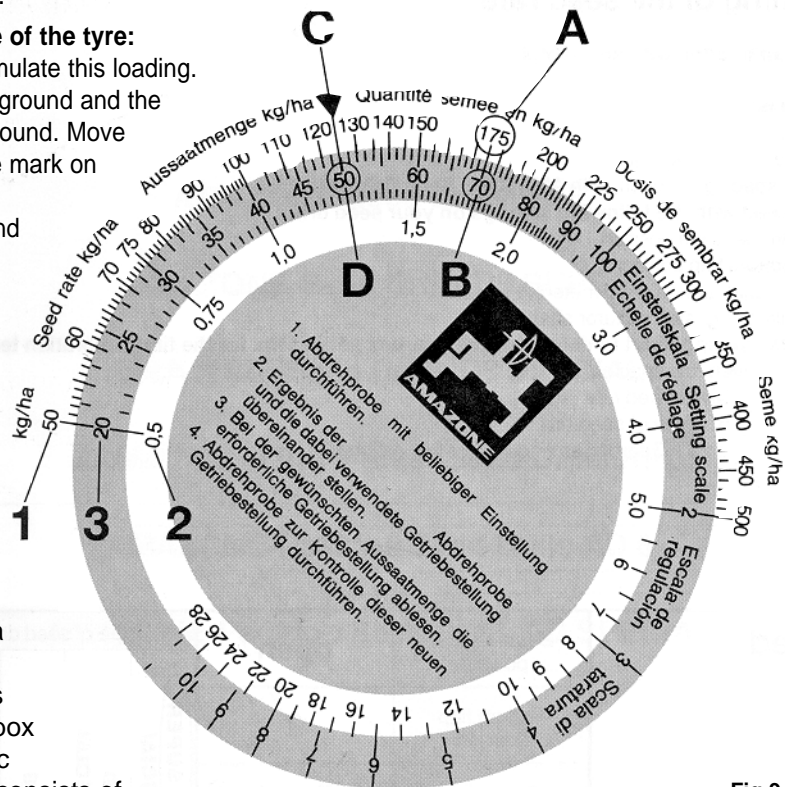

Fig 9
Usually the first calibration test yields a different seed rate. However with the value determined from the first test it is possible to determine the correct gearbox setting with the aid of the enclosed disc calculator (Fig 9). The disc calculator consists of 3 scales. An outer white scale (1) for all seed rates above 30 kg/ha and an inner scale (2) for all seed rates below 30 kg/ha. On the middle coloured scale (3) are all the gearbox setting numbers to a maximum value of 100.
- Turn the inner disc until the measured seed rate of 175kg/ha (A) is in line with the related actual gearbox setting of "70"(B) (Fig 9).
- Read off from the disc rule the necessary gearbox setting for the required seed rate of 125kg/ha (C). In this example the correct setting is "50" (D) (Fig 9).